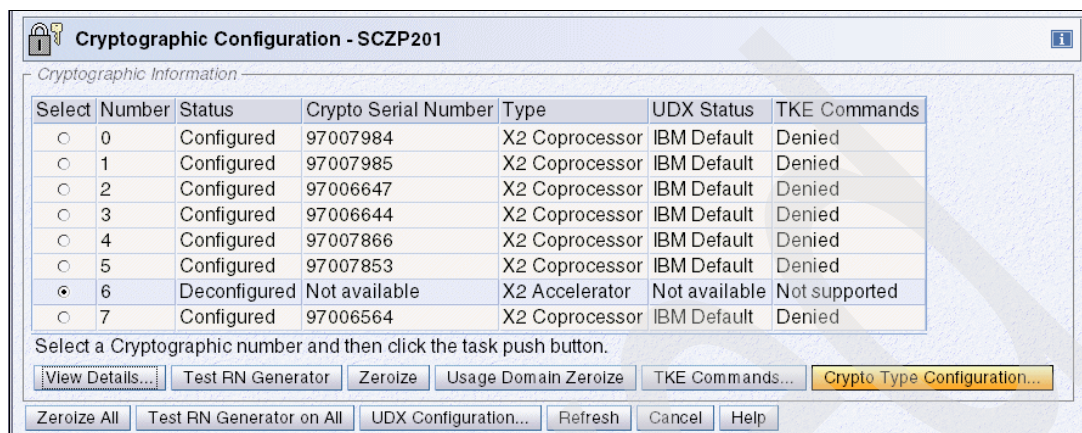

Figure 8-27 Cryptographic Configuration (Accelerator)
1. Select the number of the crypto channel that you want to change (it must be in a Deconfigured status), and click the **Crypto Type Configuration** option (Figure 8-27).